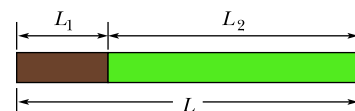

Figure 18.36 Problem 96.
**96** Figure 18.36 shows a composite bar of length  $L = L_1 + L_2$  and consisting of two materials.